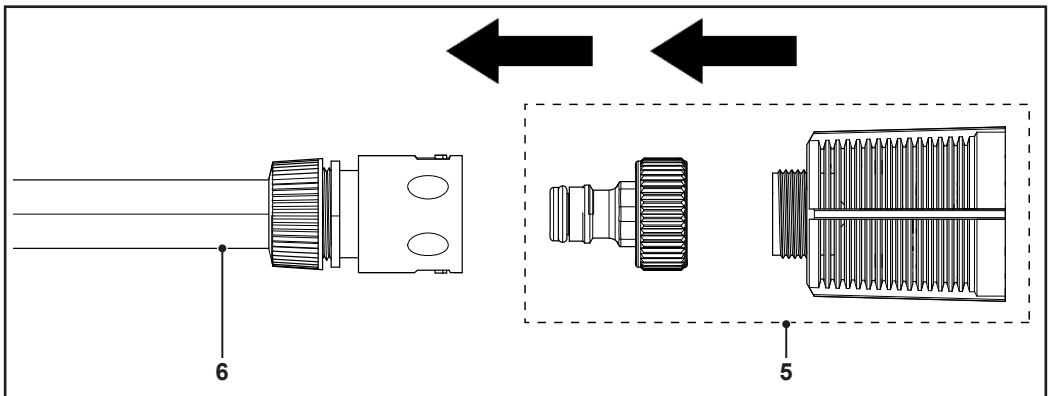

Fig. 8
1. Carefully remove the filter with valve opener (5) from the suction hose (6) (Fig. 8).
2. Rinse the filter and the valve opener (5) thoroughly under running water to remove any debris or buildup. Replace the filter (5) if heavily soiled.
3. Reinsert the filter with valve opener (5) if required.